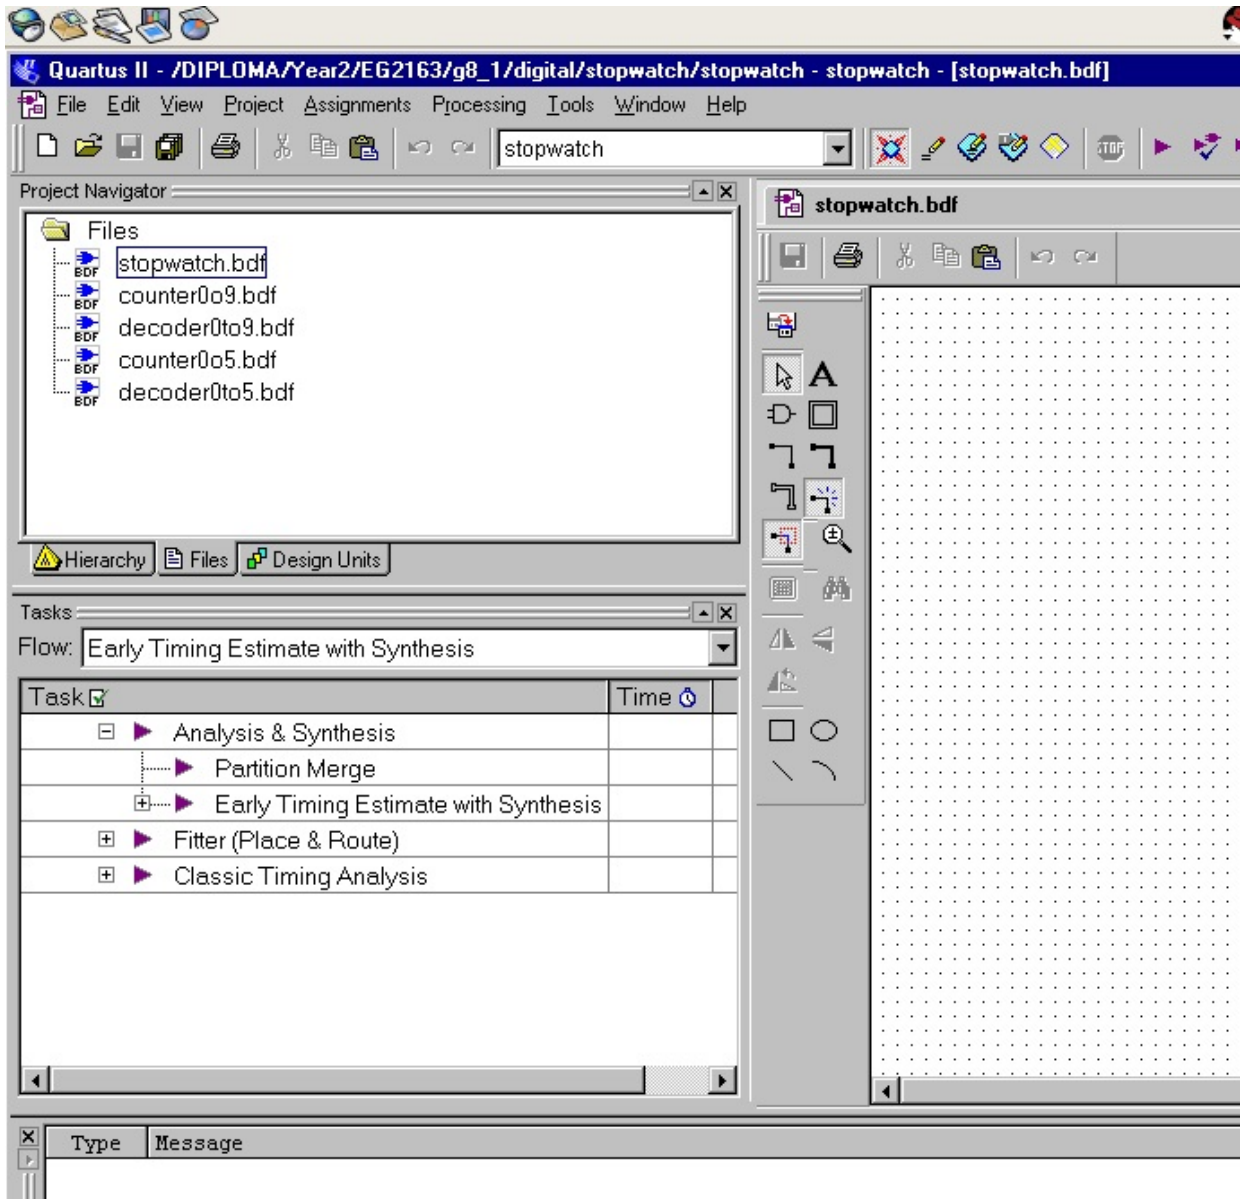

Figure 3.7 Open *stopwatch.dbf*
4. To place the *counter0to9* symbol onto the *stopwatch* circuit. Open the *stopwatch.dbf* from the menu shown in Figure 3.7.